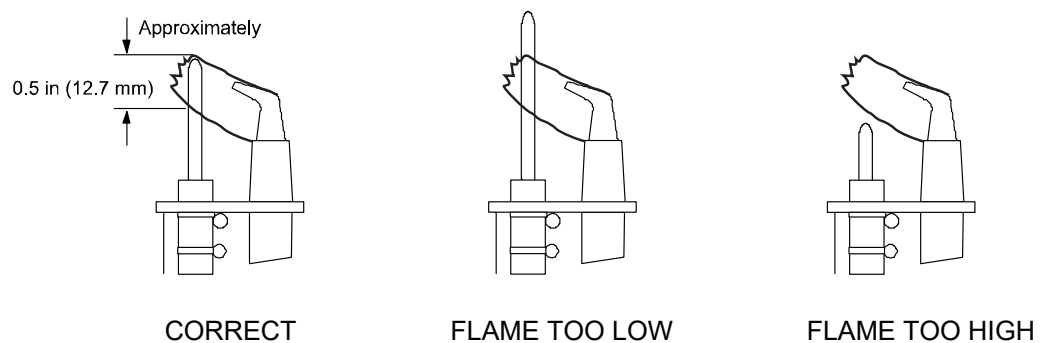

Figure 3: Proper Flame Sensor Position
- Weak flame, flame not in contact with the spark electrode of flame sensor. Check that flame sensor tip is in the flame. For proper sensing, the rod tip must be $3/8$ " (10mm) to $1/2$ " (13mm) in the flame. See Figure 3.